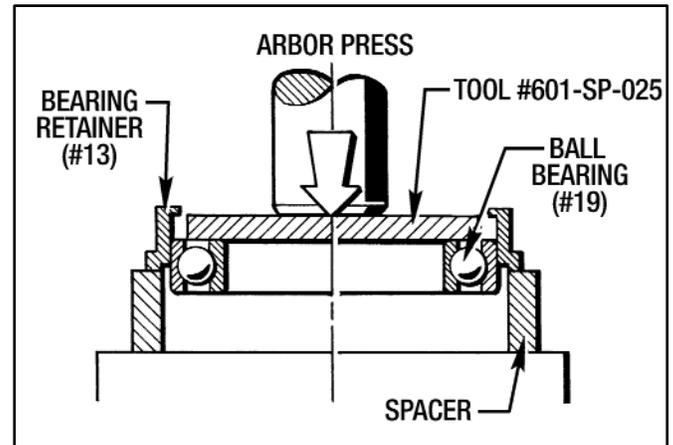

Figure 6.10 - Removing Ball Bearing (#19) from Bearing Retainer (#13)
4. Use Tool #601-SP-025 to press the Ball Bearing (#19) out of the Bearing Retainer (#13). (See Figure 6.10)